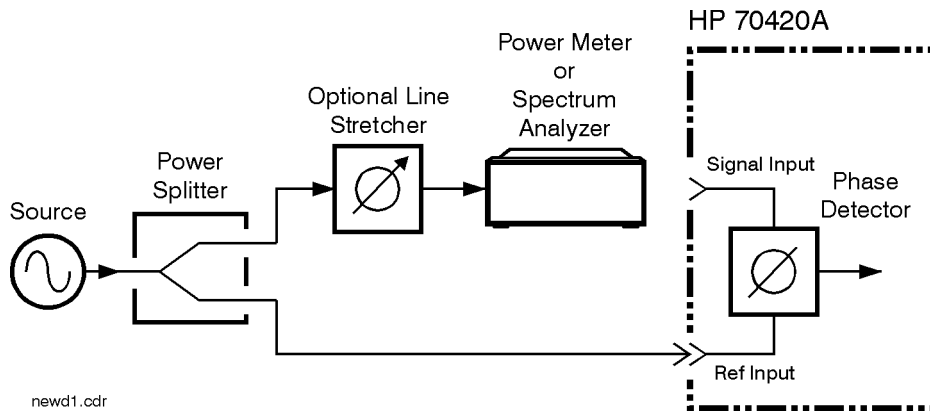

Figure 8-6 *Measuring Power at Phase Detector Signal Input Port*
1. Connect circuit as per Figure 8-6, and tighten all connections.